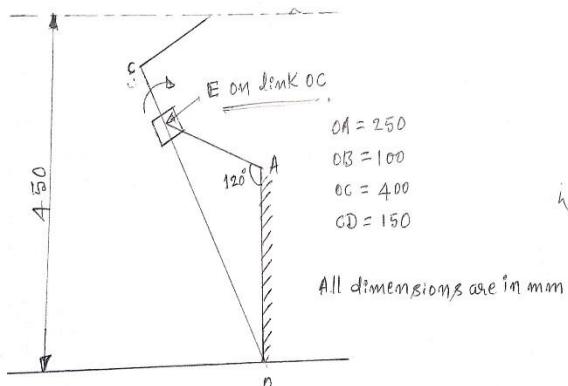

Fig. Q.6
- Q. 06 Fig Q.6 shows a crank and slotted level type quick return mechanism. The crank rotates at a uniform speed of 60rpm clock wise. The line of stroke of the ram is perpendicular to OA. Determine the velocity and acceleration of D L VI 20 Marks